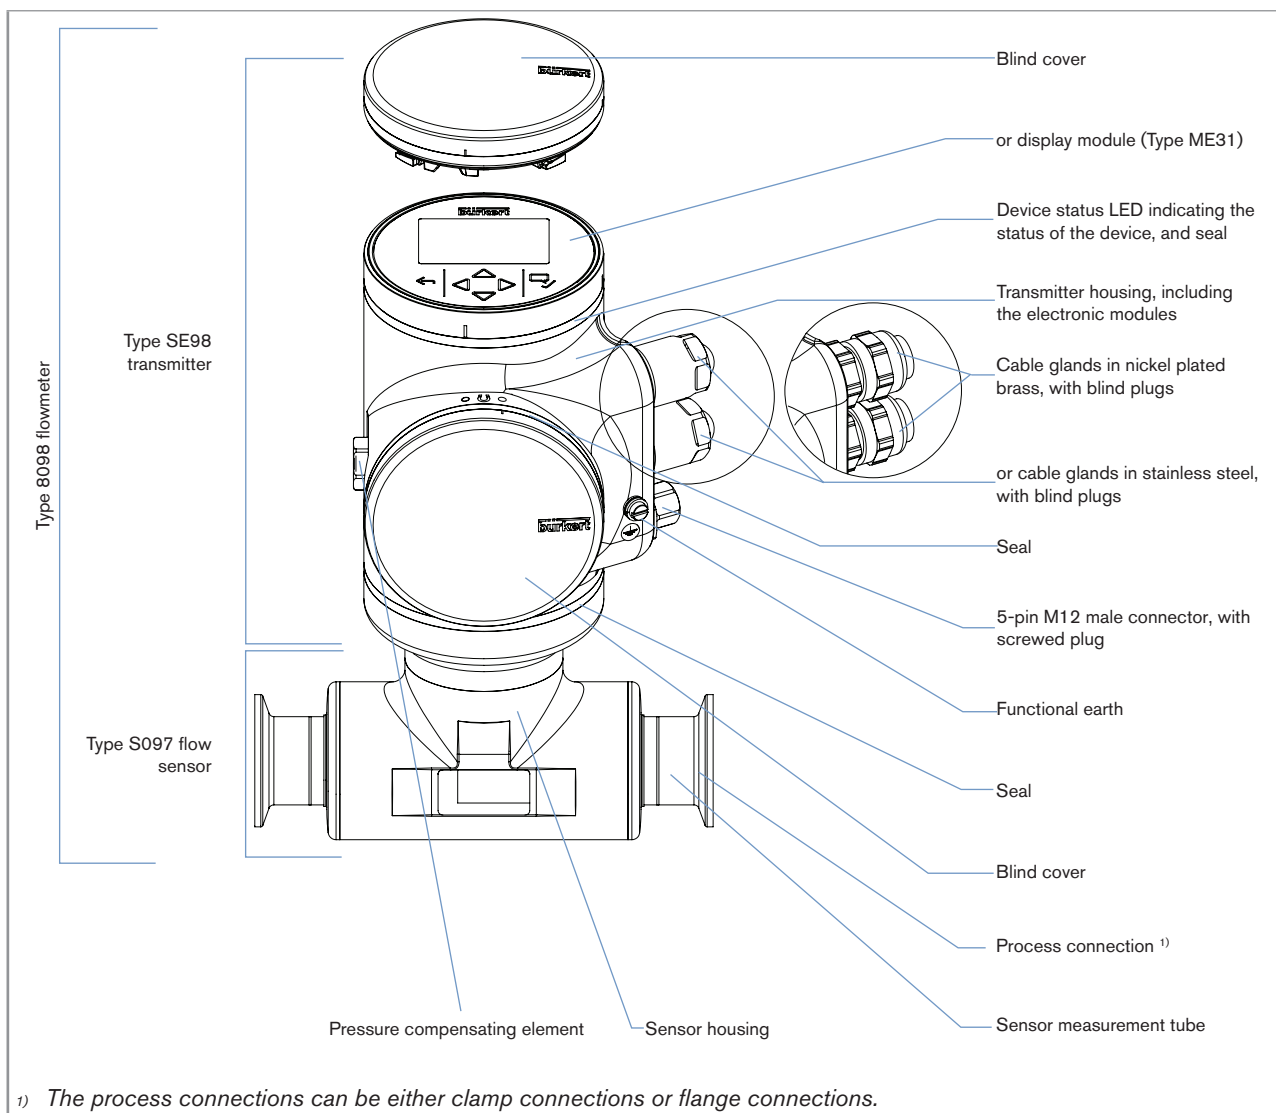

Fig. 1: Description of the device with 2 M20x1,5 cable glands and 1 5-pin M12 male connector
- Fig. 1 describes a device with 2 M20x1,5 cable glands in stainless steel (or in nickel plated brass) and 1 5-pin M12 male connector.